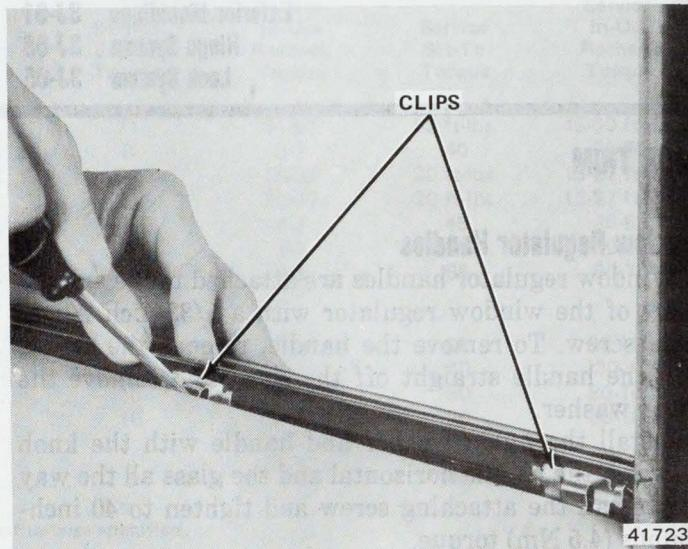

Fig. 3J-62 Clip Removal
- (1) Pull weatherstrip from door flange at retaining clips.
- (2) Insert screwdriver into retaining slots and slightly distort slots (fig. 3J-62).
- (3) Lift and remove weatherstrip.